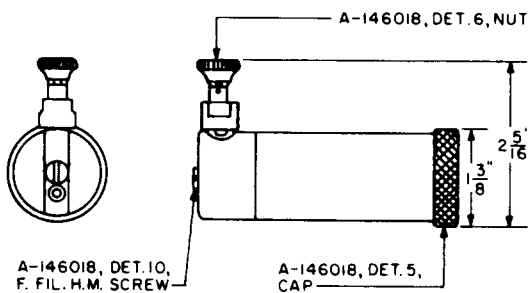

Fig. 1—353C Grease Gun
2.01 **353C Grease Gun:** The 353C grease gun (Fig. 1) is designed to discharge grease in definite limited quantities. The 570A straight nozzle or the 571A curved nozzle is required for this tool. This tool makes up part of the 1003A tool kit. The grease gun is intended for general use.